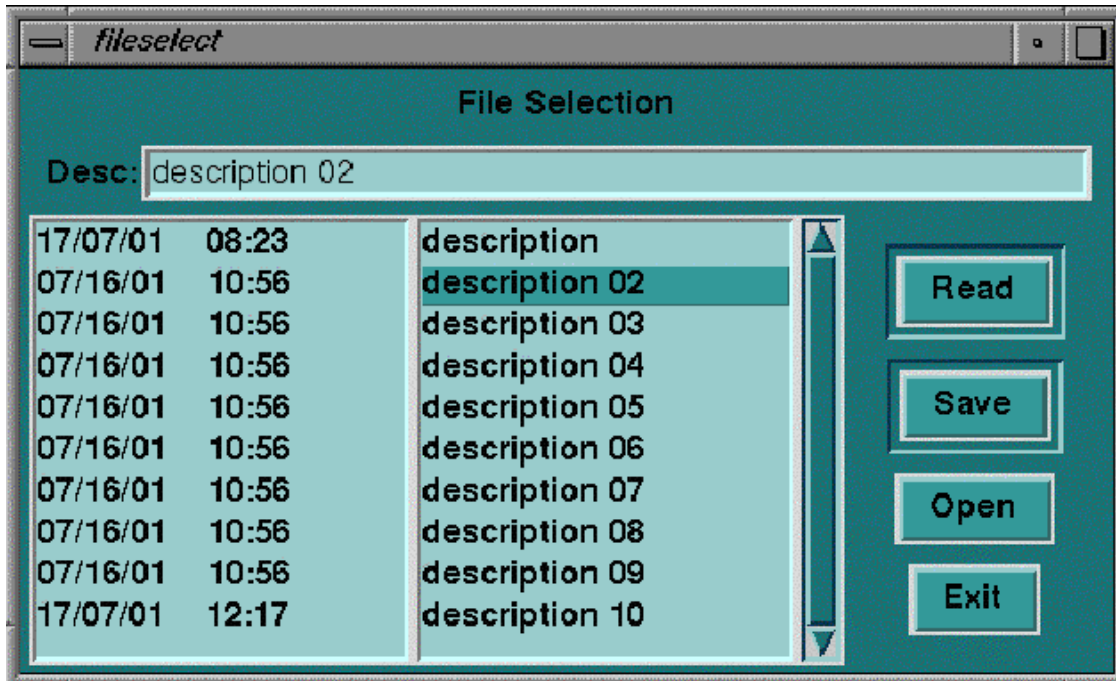

Figure 4: Library screen
2. The Library screen as seen in figure 4 appears.